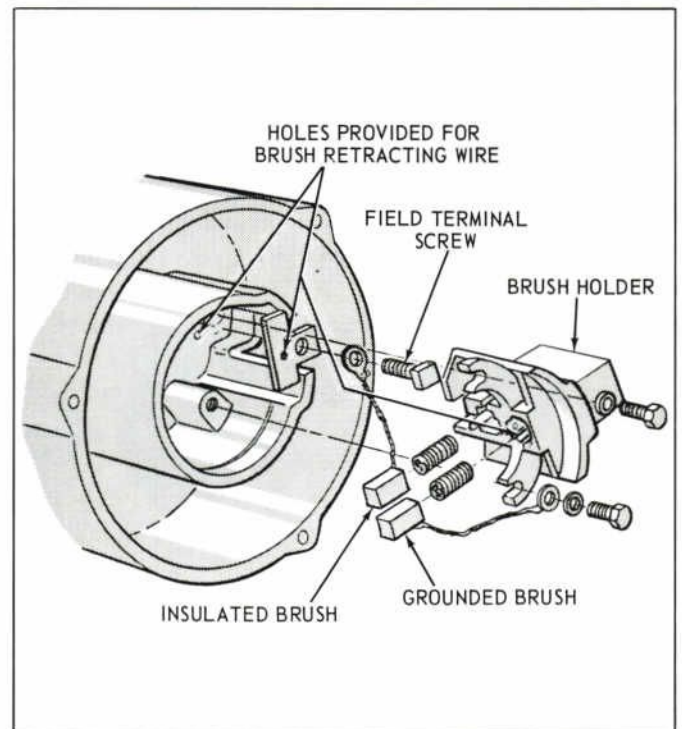

FIGURE 56. BRUSH HOLDER INSTALLATION
- Install the brush springs into the brush holder. Then, install the brushes with their brush pigtail wires (flat end of brush) toward the spring. (See Figure 56.) Locate the pigtail wires in the slots provided for this purpose. Insert a two-inch-long "brush retracting wire" (paper clip) into the hole located on the outside of the rear housing, between the field terminal and the bearing boss. Depress the insulated brush; push the brush retracting wire over the top of the brush and into the hole in the partition between the brushes. Depress the grounded brush and push the retracting wire over the top of the brush to hold it in the retracted position.